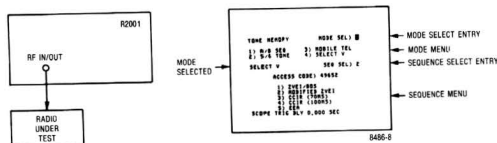

Figure 4-12. Test Setup for Select V Test with CRT Display
e. Test Select V decode function (Figure 4-12).
- Connect the system to be tested as shown in figure 4-12 and set the MODULATION switch as desired to test the Select V decoder.